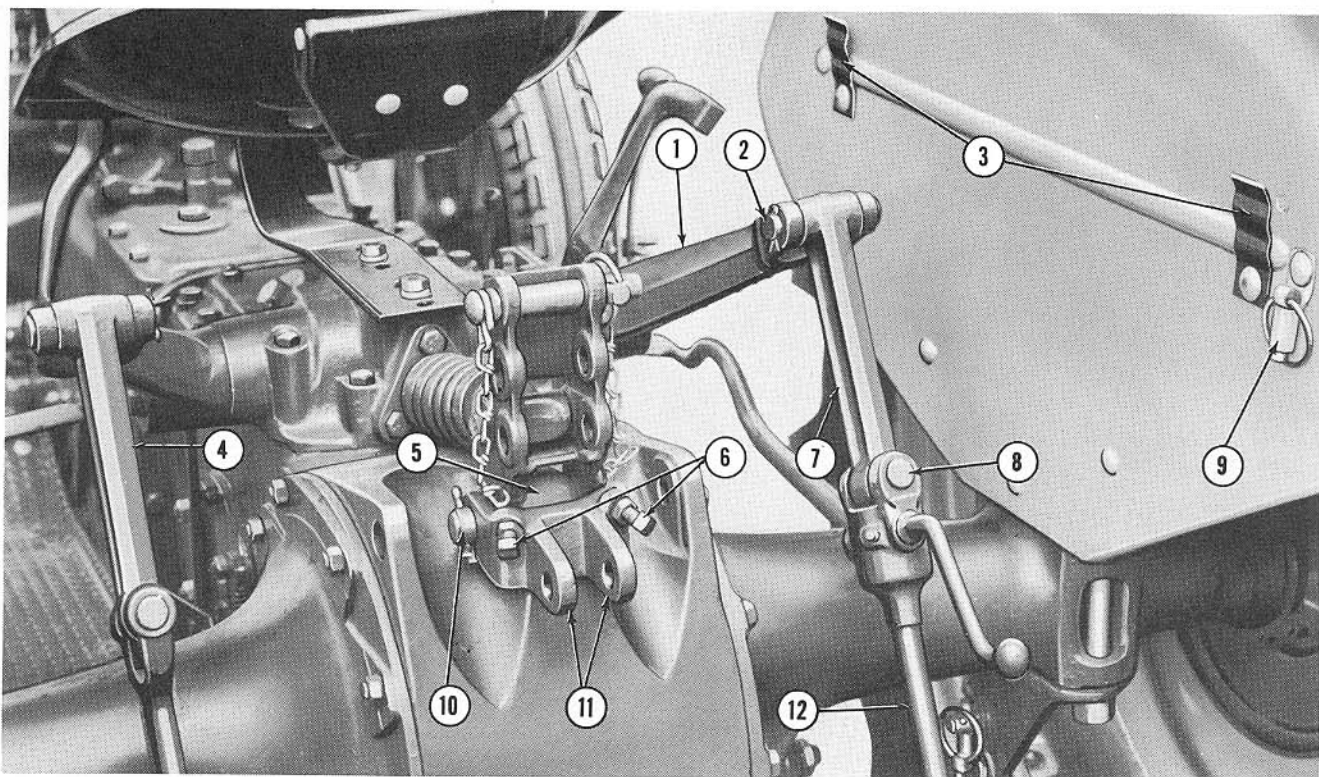

Figure 12
19. Attach the extension arms (4) and (7), Figure 12, to the tractor leveling rods as follows:
- a. Remove the knuckle from between the tractor lift arm (1), Figure 12, and the leveling rod (12).
- b. Replace the knuckle with an extension arm (7) as shown in Figure 12.
- c. Attach the extension arm with the pins (2) and (8) which are provided with the tractor, and secure with cotter pins.
- d. Attach the extension arm (4), Figure 12, to the other lift arm in the same manner.
20. Attach the mower upper link bracket (11), Figure 12, to the lug (5) on the tractor center housing as follows:
- a. Position the upper link bracket (11) on the lug (5) as shown in Figure 12 and secure with the $5\frac{1}{2}$ " pin (10) and the two $\frac{1}{4}$ " cotter pins provided.
- b. Tighten the two set screws (6) against the rocker assembly and secure with jam nuts.
21. Attach the transport rod clips (3) to the tractor fender with the lower two fender bolts.
NOTE: On all Ford Tractors produced after Serial No. NAA-72567, it will be necessary to invert the right hand linch pin clip (9), Figure 12, as shown.